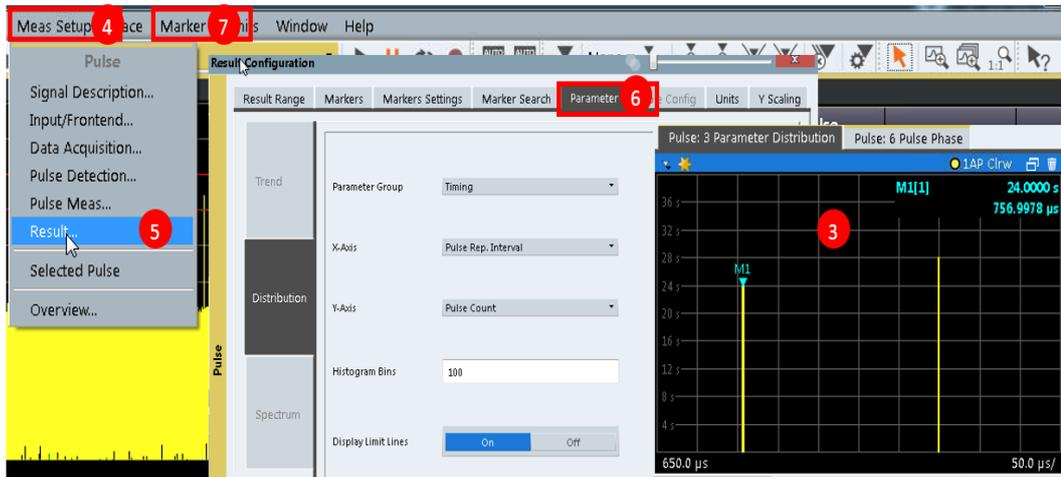

Figure 26: VSE-K6 Parameter Distribution
6. In the parameter tab use the values as depicted in Figure 26. Close the window.